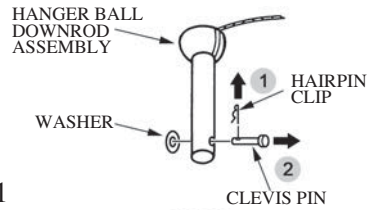

FIG.1
1. Take off the washer, clevis pin and hairpin clip from the downrod. (see Fig.1)